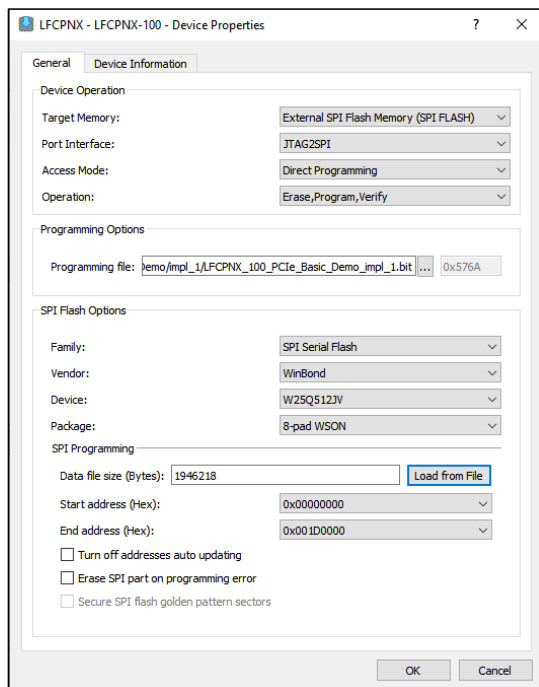

Figure 5.14. Device Properties Window for CertusPro-NX SPI Flash Programming
- For CertusPro-NX Versa Board, select the settings as shown in Figure 5.14.